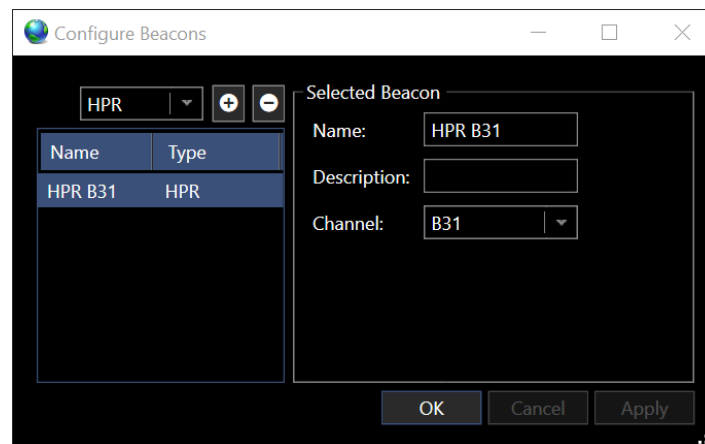

FIGURE 17-4 HPR BEACON DIALOG
- Select HPR from the drop-down list (see Figure 17-4)